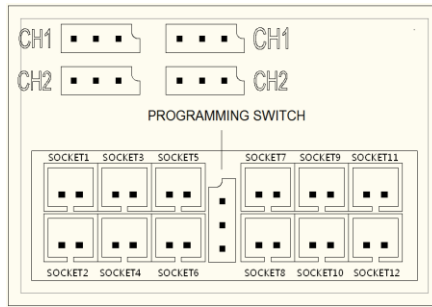

Figure 1
- 6.) Plug Light strands into corresponding sockets on the control box. **(refer to figure 1)**